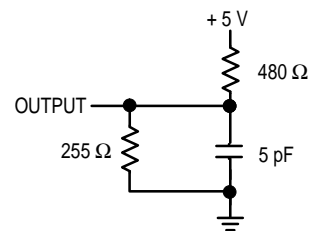

Figure 1B
7. Transition is measured $\pm 500 \text{ mV}$ from steady-state voltage with output load of Figure 1B. This parameter is sampled and not 100% tested.
10. Transition is measured \pm 500 mV from steady-state voltage with output load of Figure 1B. This parameter is sampled and not 100% tested.